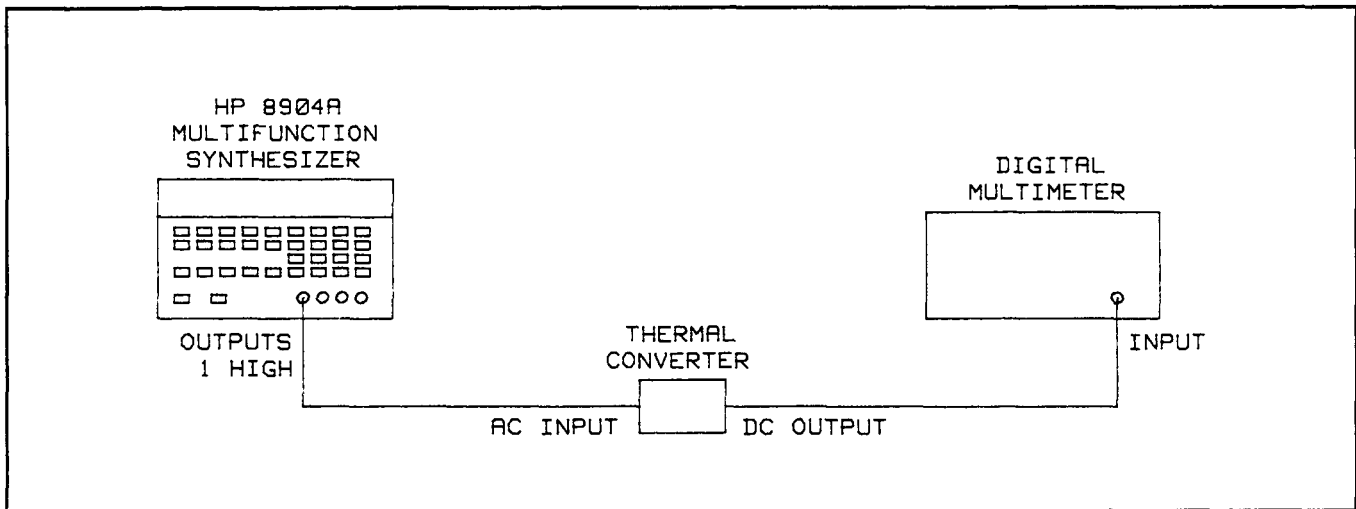

Figure 5-3. Sine X/X Compensation Adjustment Test Setup
4. Connect the ac input of the thermal converter to the Multifunction Synthesizer's OUTPUTS 1 HIGH output for the A3 Output Assembly or OUTPUTS 2 HIGH for the A10 Output Assembly. Connect the dc output of the thermal converter to the input of the voltmeter. Refer to Figure 5-3.